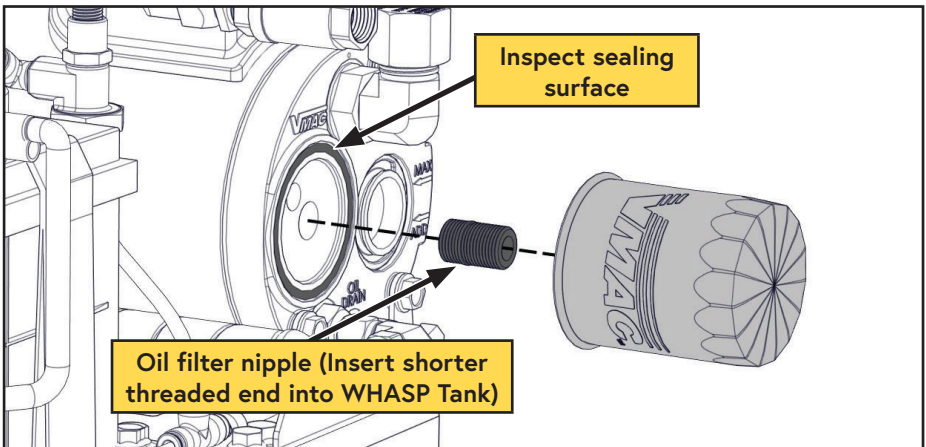

Figure 41 — Compressor oil filter
- ☐ *To reinstall the nipple, thoroughly clean the threads and apply Loctite 242 (blue) to the end with the short threads and replace it in the AOST (Figure 41).
- ☐ Clean the gasket sealing surface on the front of the tank and inspect it for damage. The surface must be free of old gasket material and smooth to ensure a good seal. (Figure 41).